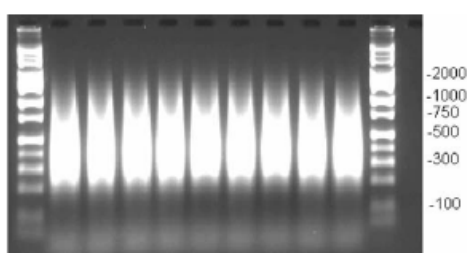

Figure 1. Example of PCR products run on 2% TBE agarose gel at 120 V for 1 h.
33. Verify that the PCR product distribution is between ~200 bp to 1,100 bp (example of gel below, Figure 1).